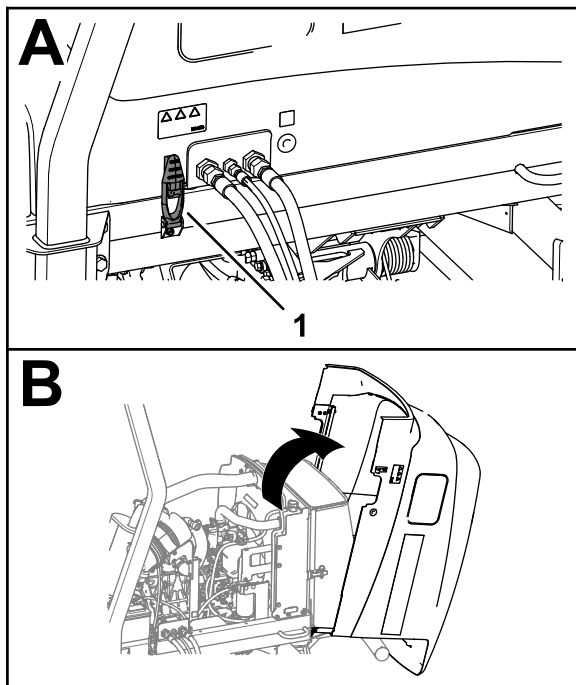

Figure 93
1. Release the 2 hood latches (Figure 93).